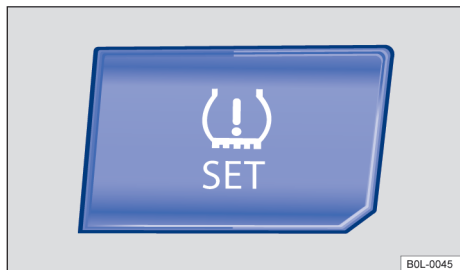

Fig. 145 On Centre console: tyre pressure monitoring button
- When all four tyre pressures correspond to the required values, tap (Ⓜ) → Fig. 145 until the system emits a confirmation sound.